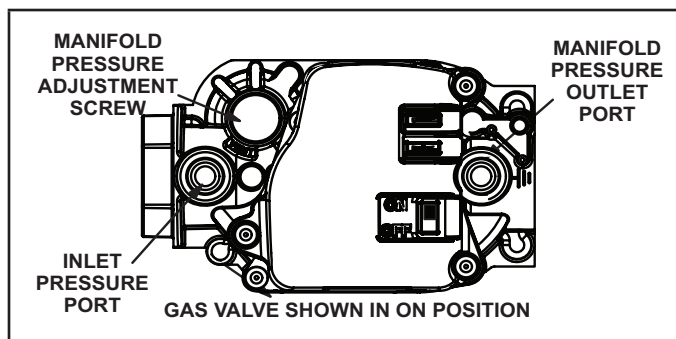

Figure 61
## Gas Valve Operation (Figure 61)
- 6 - Move gas valve switch to OFF. See Figure 61.
- 8 - Move gas valve switch to ON. See Figure 61.
When testing supply gas pressure, use the 1/8" N.P.T. plugged tap or pressure post located on the gas valve to facilitate test gauge connection. See figure 61. Check gas line pressure with unit firing at maximum rate. Low pressure may result in erratic operation or underfire. High pressure can result in permanent damage to gas valve or overfire.